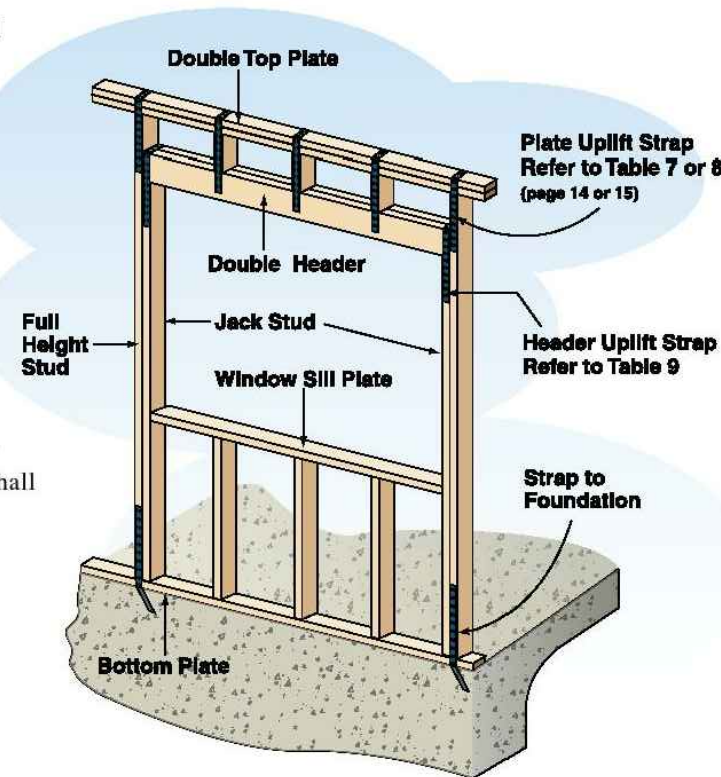

Figure 17. Studs and Headers Around Wall Openings
■ **Wall Openings.** Headers shall be provided over all exterior wall openings. Headers shall be supported by wall studs, jack studs, hangers, or framing anchors (See Figure 17).